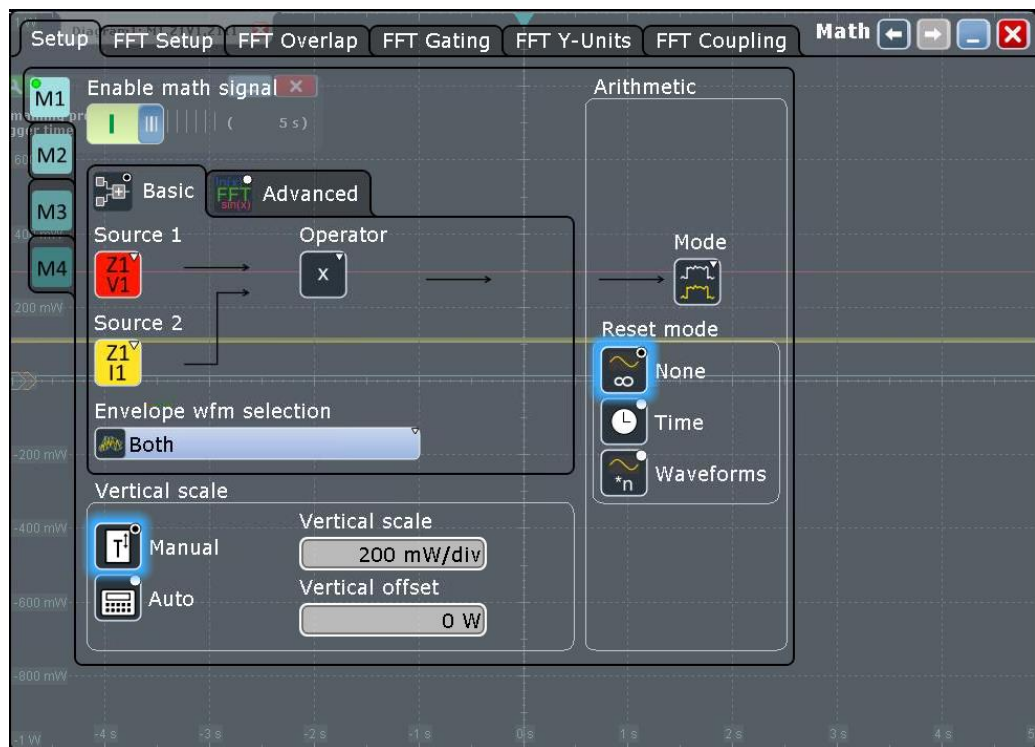

Figure 4-5: Math function configuration for power measurement on the RTO
8. Configure the two sources and operator as shown in Figure 4-5.